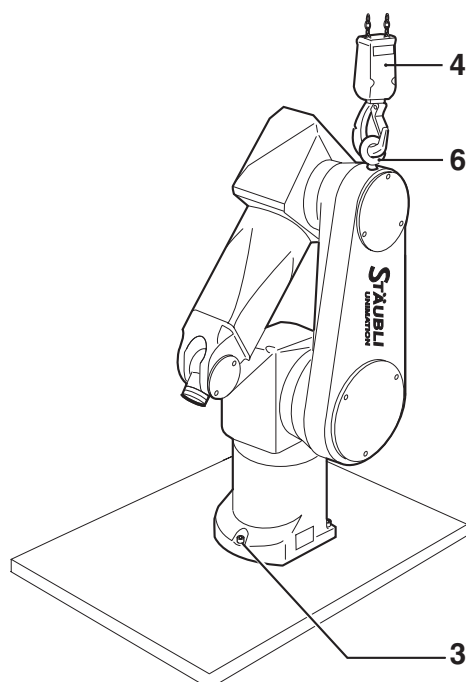

Figure 3.3
- Pass the hook (4) of the hoist through the hoisting ring (6) and hold slightly tensioned to stop the arm from tipping (figure 3.3).
- Remove the (3) bolts from the arm (figure 3.3).